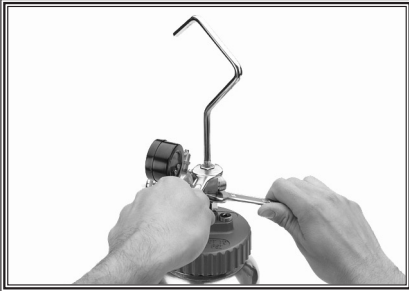

Figure 2. Installing hook/handle.
1. Attach the hook/handle on the cap with 19mm and 14mm wrenches (see **Figure 2**).